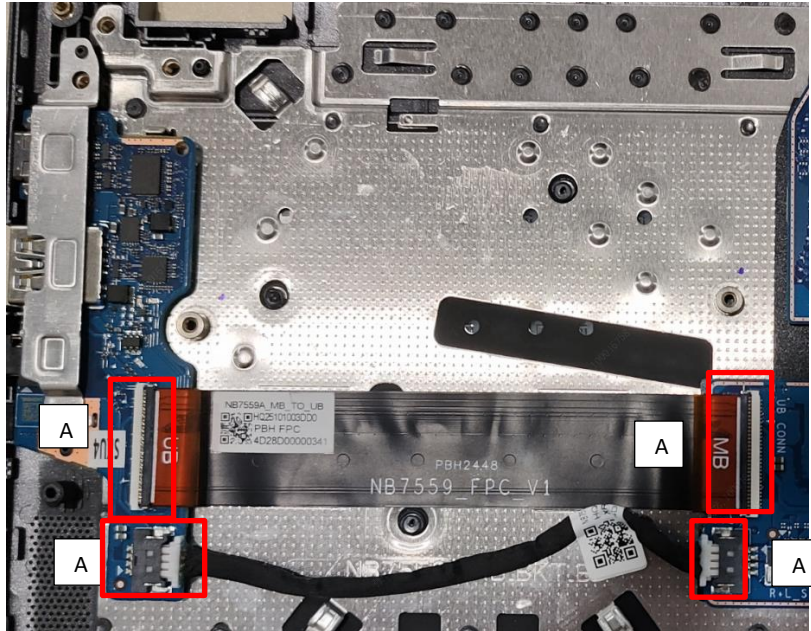

Figure 3-22. USB Board Removal
1. Disconnect the USB board L CABLE (A) from the USB board (Figure 3-22). remove UB cable (B) and from the top assembly.